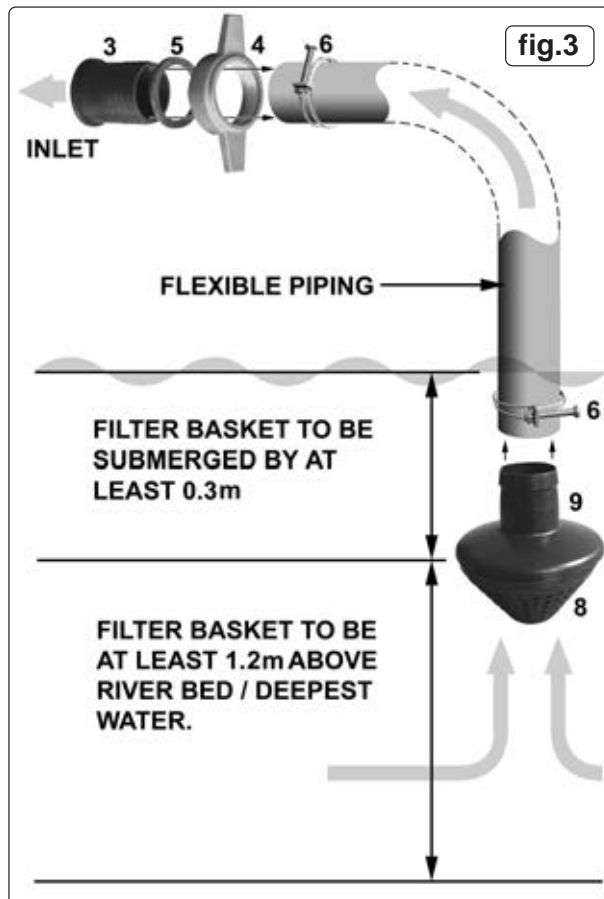

fig.3
- 4.1.4 Snap the filter basket cover (9) onto the top of the filter basket (8) as shown in fig.3.
##### 4.2 CONNECTION TO FLEXIBLE PIPING (See fig.3)
- 4.2.5 Submerge the filter basket in the water to be pumped. The filter basket must be at least 0.3m below the surface of the water and 1.2m above the deepest part of the water to prevent debris blocking the filter basket. (See fig.3). Ensure that the suction pipe remains in the position intended.